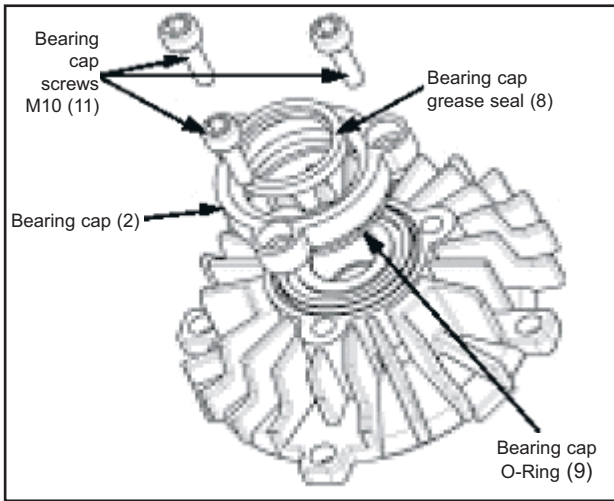

Figure 16
1. Remove the three M10 screws (11) securing the bearing cap, and remove the bearing cap (2) ; See figure 16.